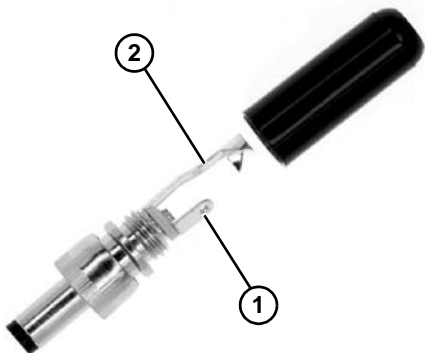

Figure 27
1. Locate the male disconnect plug (Figure 27, item 1) provided.
2. Wire and solder DC power to the two terminals of the provided DC power plug. Wire +VDC to the short lug (Figure 27, item 1) and -VDC to the long lug (Figure 27, item 2).